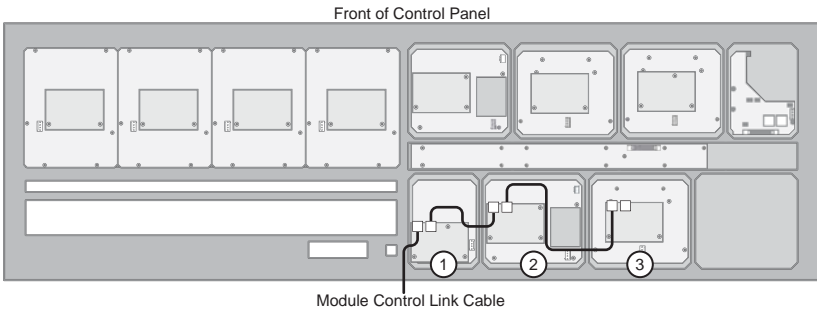

Figure 6 Module Control Link Cable — Vision 2X
1. Connect and secure the existing **Module Control Link Cable** to the **PREV** port on the first module ① (**Figure 6**). This CAT5e cable with an RJ-45 connector on either end is already installed in the control panel.